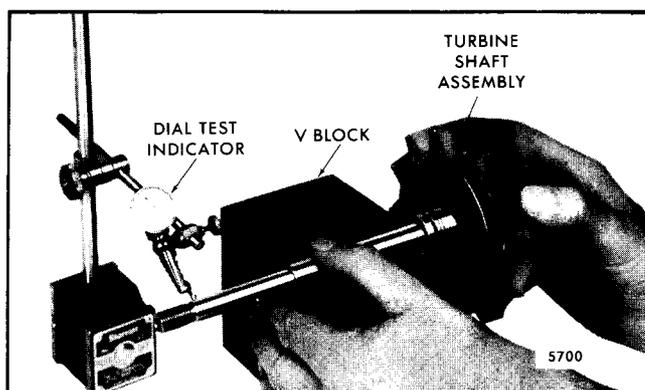

Fig. 12 - Measuring Concentricity Between Large and Small Turbine Shaft Diameters
- Measure the concentricity between the large and small turbine shaft diameters with a dial test indicator and vee-block (Fig. 12). Limit of eccentricity is .0006" total indicator reading. Replace if the measurement is excessive.